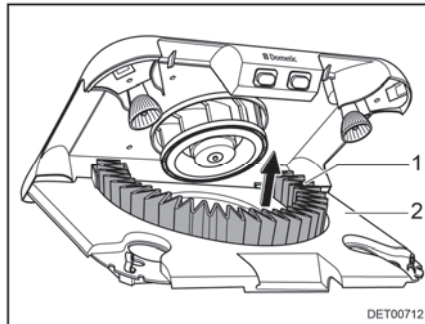

Fig. 153 Change the active carbon filter
- Remove the active carbon filter (Fig. 153,1) of the holder in upward direction.
- Swivel the filter holder (Fig. 153,2) upwards until it engages.